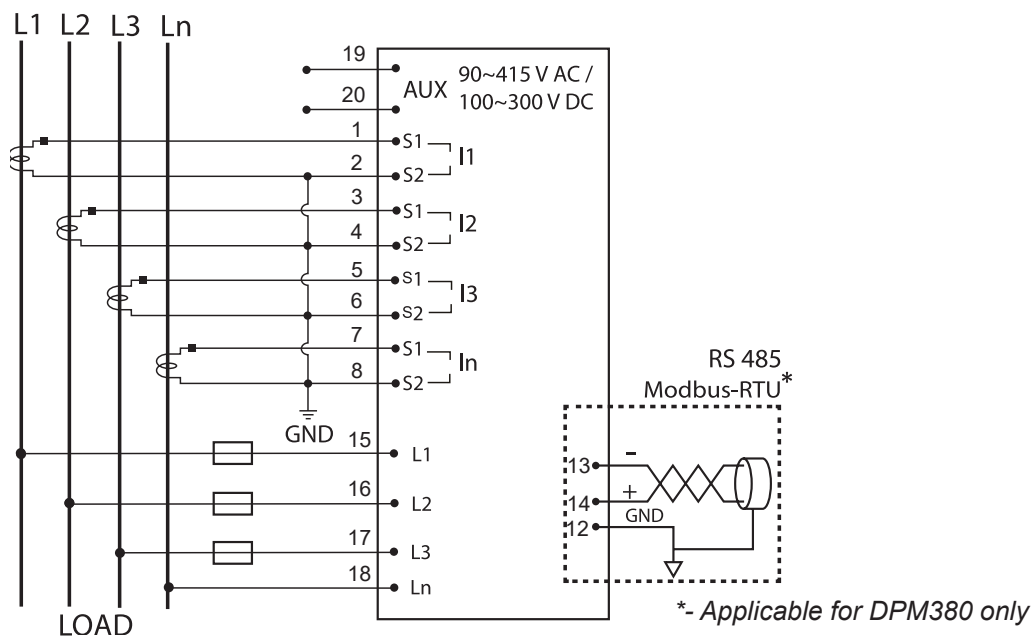

Figure 3: 3 Phase 4-Wire System with 4CTs connection, direct voltage input.
c) Connect the metering voltage input, current input, communication and auxiliary according to the wiring schemes shown in Section 2.3, Figure 3 to 6 on the next page.